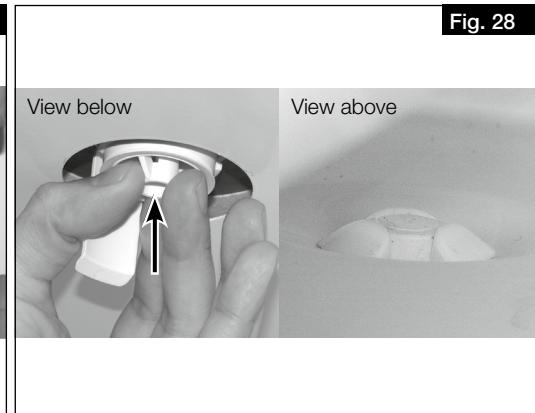

Fig. 28
2. Plug the mounting part in the condensate outlet from below, until the claw fasteners snap to the sheet edge of the base plate (Fig. 28).